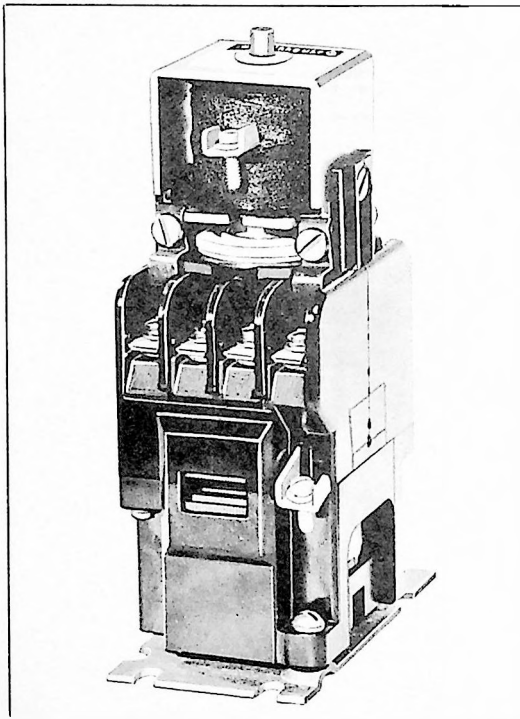

Fig. 1 Latched 4 Pole BF Relay
shown in Figures 1 and 2. Prior to mounting, loosen clamp screws (6) two or three turns and remove any thick nameplates or foreign objects from the BF Relay mounting surface.
1. Push the armature (2) up to the magnet frame (3). Holding the latch carrier assembly (1) in its outermost position, place the latch attachment (10) on the relay cover, being careful to set the channel slots (4) over the center barriers (11) of the relay cover (5).